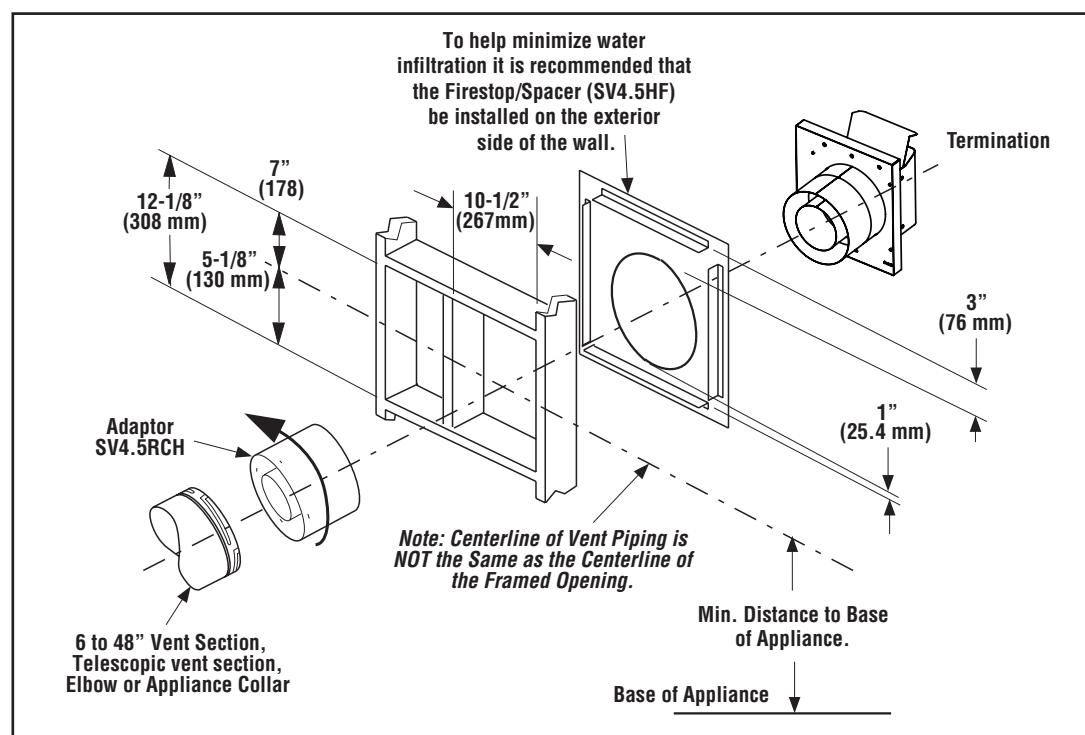

Figure 9 - Installing the Horizontal Termination
- 2. Assemble the vent run to the exterior wall—**If not previously measured, locate the center of the vent at the exterior wall. Prepare the opening. Assemble the vent system until the terminus of the last section is within 7" (178 mm) to 11-1/4" (286 mm) inboard of the exterior surface to which the SV4.5 HT termination is to be attached (Figure 9). If the terminus of the last section is not within this distance, use the telescopic vent section SV4.5LA, as the last vent section. **Table 1, Page 16** lists the additional venting components needed (in addition to the termination and adaptor) for a range of wall thicknesses.
- 3. Attach the termination adaptor—**Attach the adaptor (SV4.5RCH, provided with the termination) to the vent section or telescoping vent section, elbow or fireplace collar (**Figure 9**).
- 4. Install the firestop/spacer at the exterior wall—**When using the square termination, install SV4.5HF Firestop/Spacer over the opening at the exterior side of the framing, long side up, with the 3" spacer clearance at the top (**Figure 9**) and nail into place.